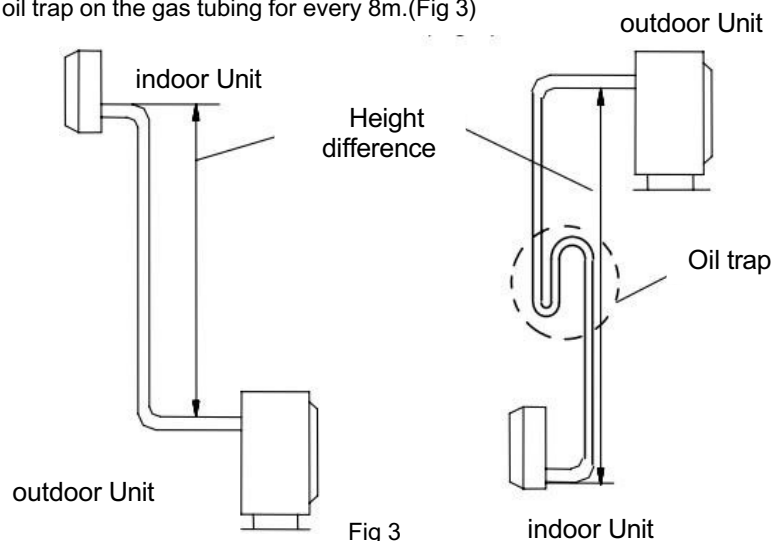

Fig 3
- If the installation position of the outdoor unit is higher than indoor unit and the tubing is longer than 10m, added a oil trap on the gas tubing for every 8m.(Fig 3)